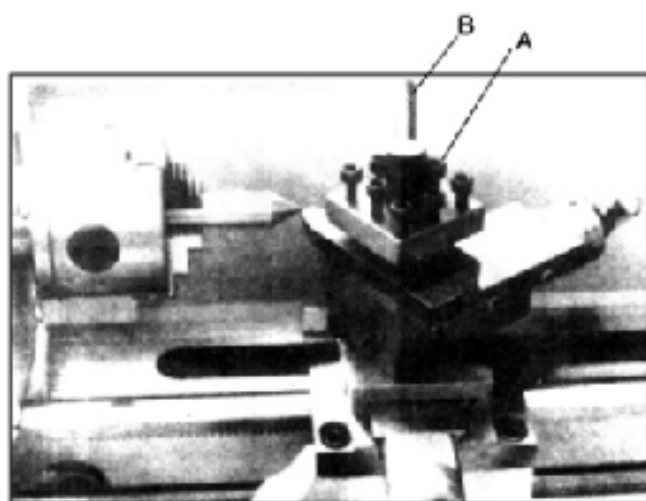

Fig. 11 Tool Post Adjustment
When you are going to adjust the tool post position, you only need to loosen the lever shown in (B) of Fig. 11. After you have finished be sure to tighten. If you are going to replace the work cutter then you need to loosen the screws of (A) with the allen wrench provided.